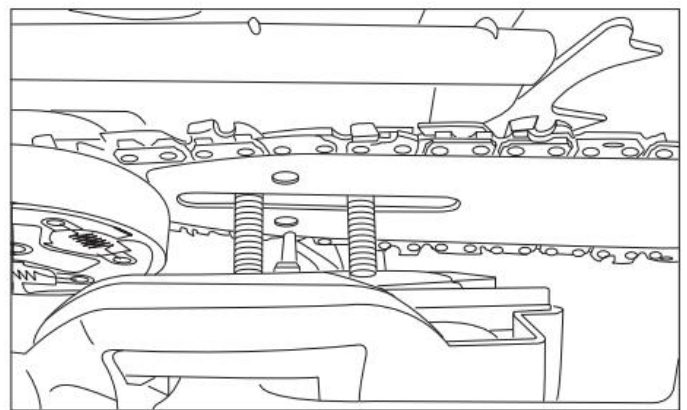

Fig. 8
9. Replace the protection cover so that the bolts fit into the holes and the chain tensioning pin fits into the lower hole in the bar (fig. 8).